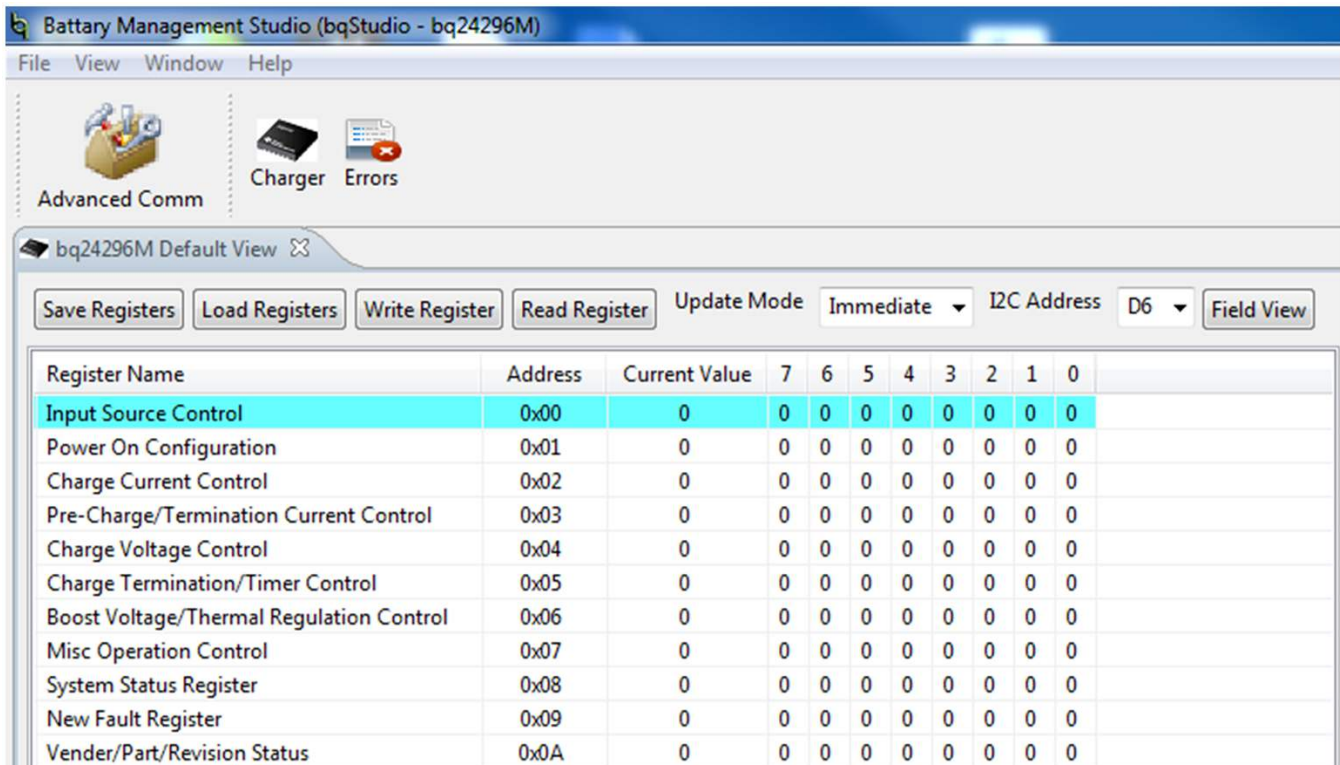
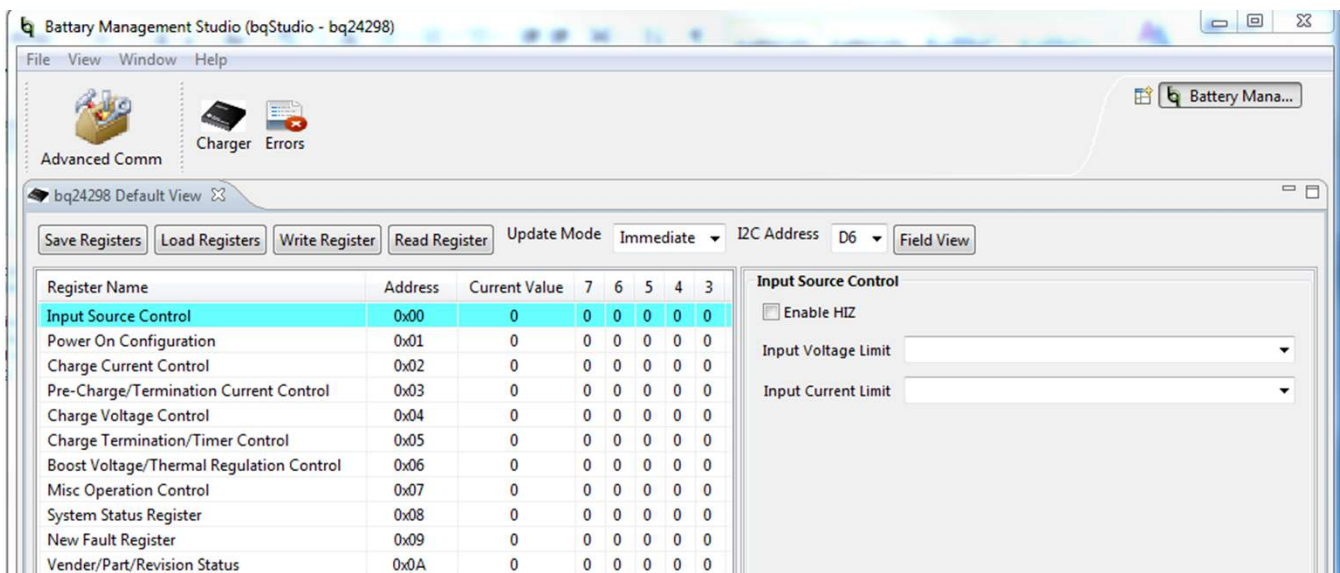

Figure 3. Main Window of the bq24296M Evaluation Software
Figure 4. Main Window of the bq24298 Evaluation Software
8. Turn on the computer. Launch the evaluation software. The main windows of the bq24296M and bq24298 software are shown in Figure 3 and Figure 4, respectively.